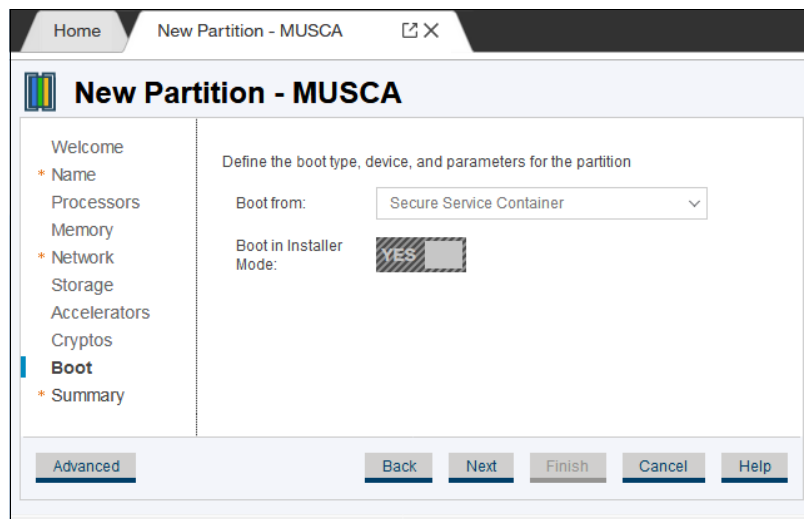

Figure 16-55 Boot options for SSC partition
10. After you see the available boot options, you can select to boot in installer mode (which is required if you want to install code on the storage that is allocated to the partition), as shown in Figure 16-55.